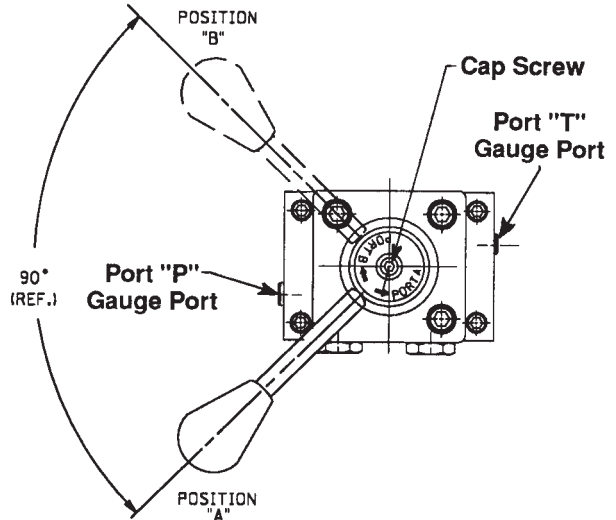

FIGURE 1
- To move the valve handle to any position loosen the cap screw and rotating the stem in increments of 22 1/2° to the position desired. Torque the cap screw 60/80 in. lbs. See Figure 1.
3. Upon initial start-up it is recommended that a gauge be temporarily installed in the Port "T" gauge port shown in Figures 1 and 3. Return line pressure should not exceed 500 PSI. See Figure 3.